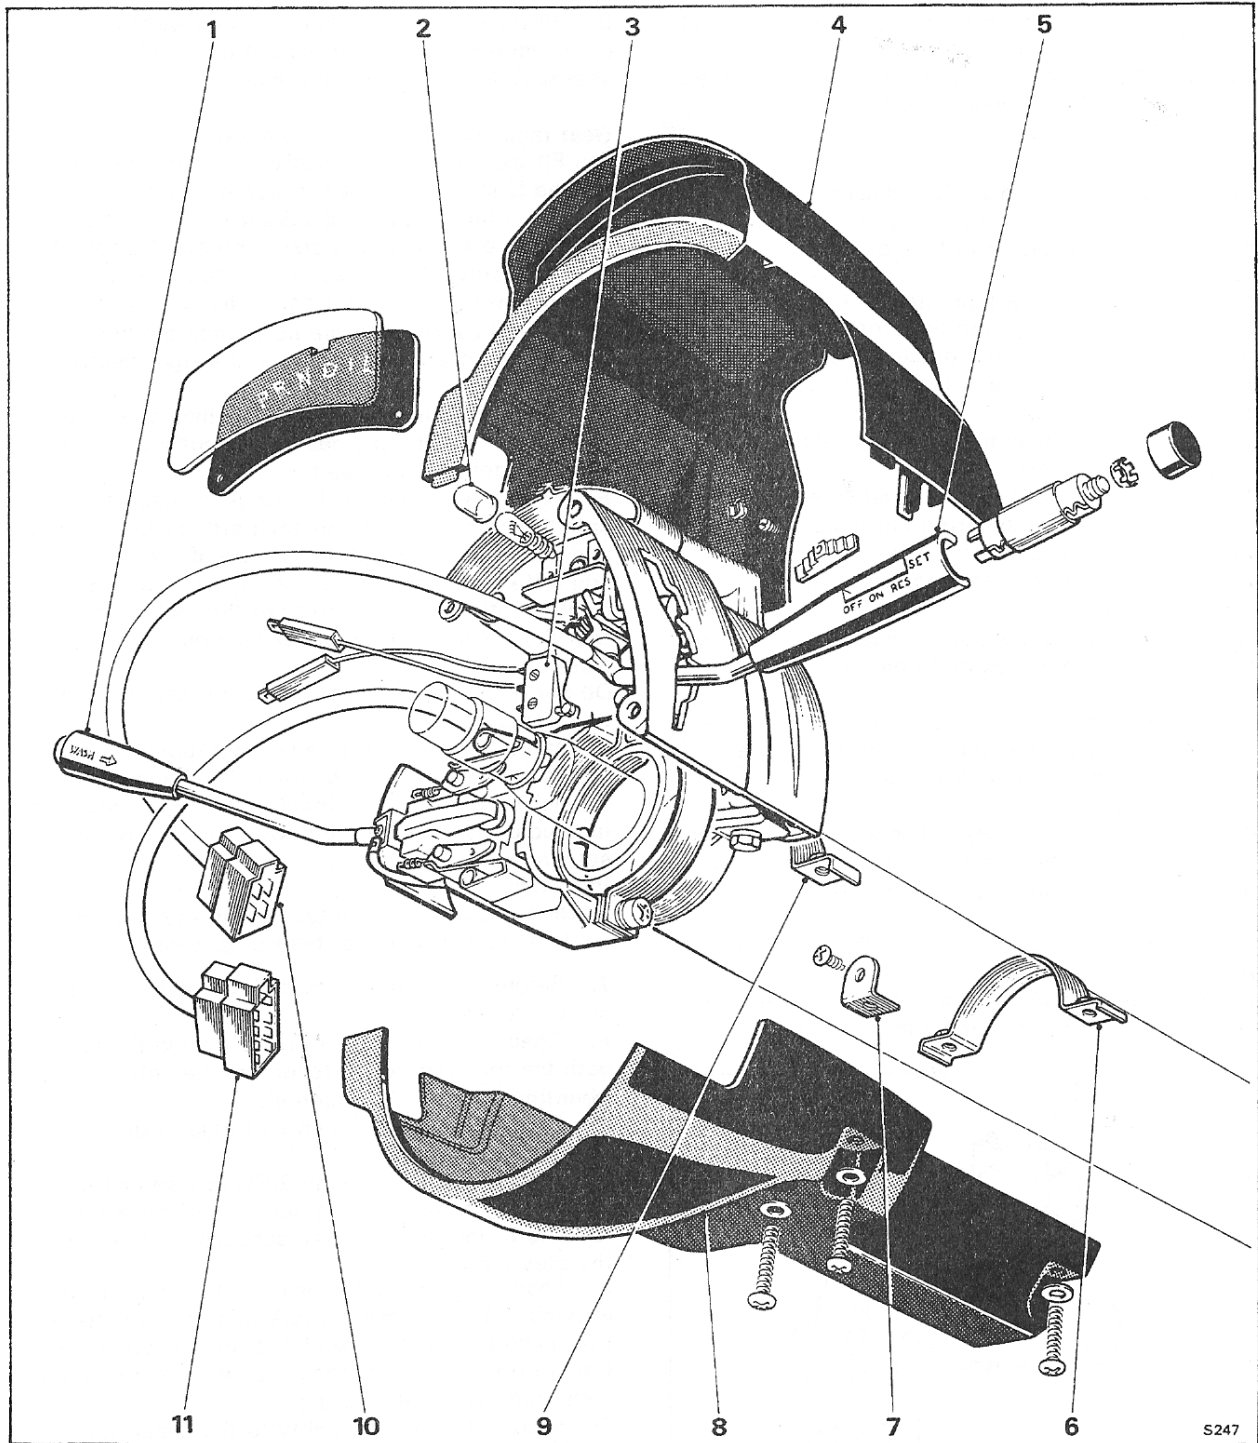

Fig. N30 Cowl, gear range selector and wash unit
**Gear range selector unit - To remove (Fig. N30)**